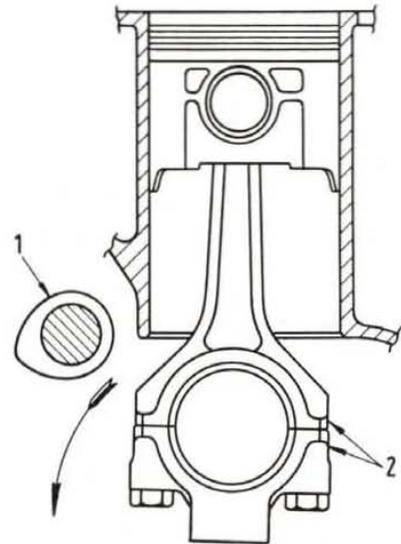

Fig. 61 - Installation diagram of piston-connecting rod assembly. 1. Camshaft. - 2. Location of connecting rod identification number.
- Install the assembly with the connecting rod identification number facing the side opposite the camshaft (fig. 61).